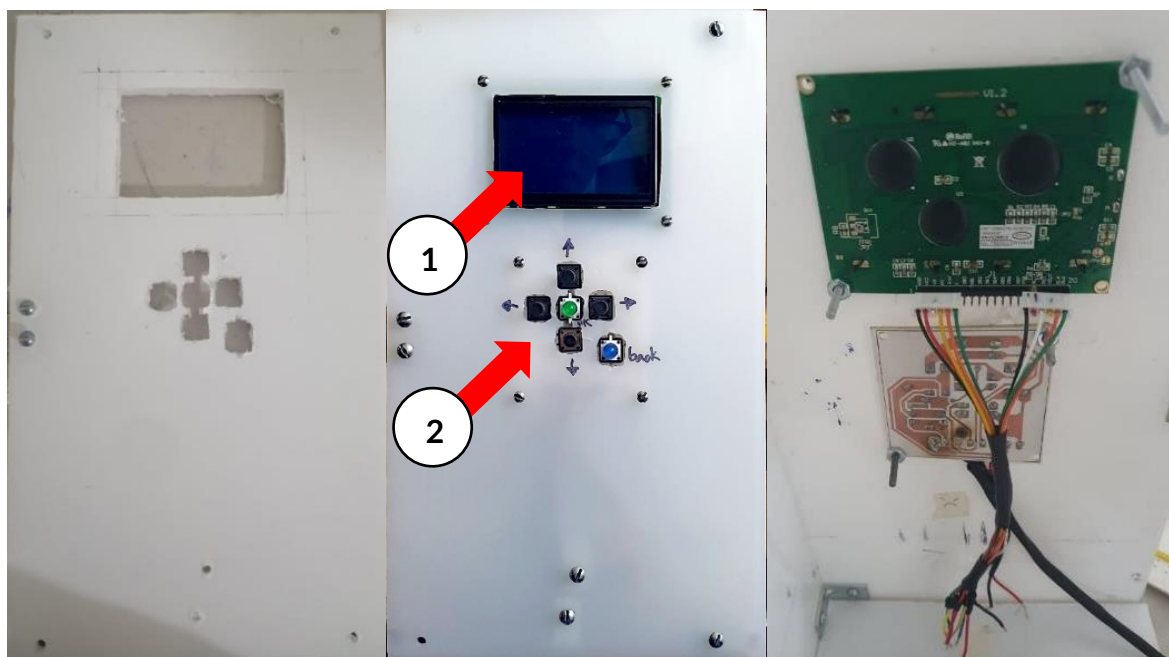

Figure 18- Front before and after adding the screen (1) and the keyboard (2) and interior view.
2. Subsequently, the screen (1) and the keyboard (2) shown in Figure 18.